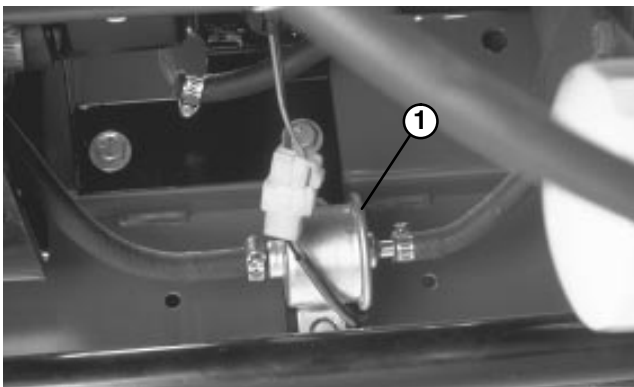

Figure 29
1. Clamp both fuel lines that connect to fuel filter (Fig. 29) so gasoline cannot drain when lines are removed.
3. Loosen hose clamps (Fig. 29) at each end of filter, pull fuel lines off and discard filter.